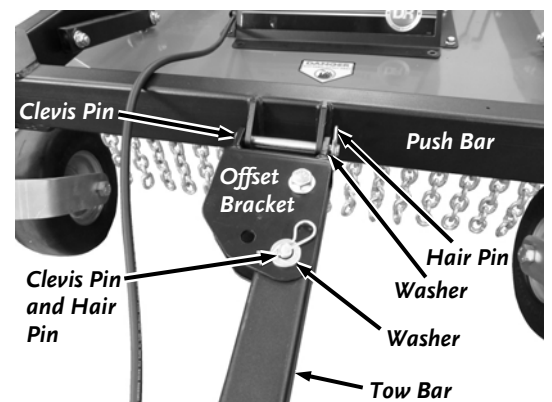

Figure 26
5. Turn the Tow Bar over to position the Offset Bracket for left side offset (**Figure 26**).